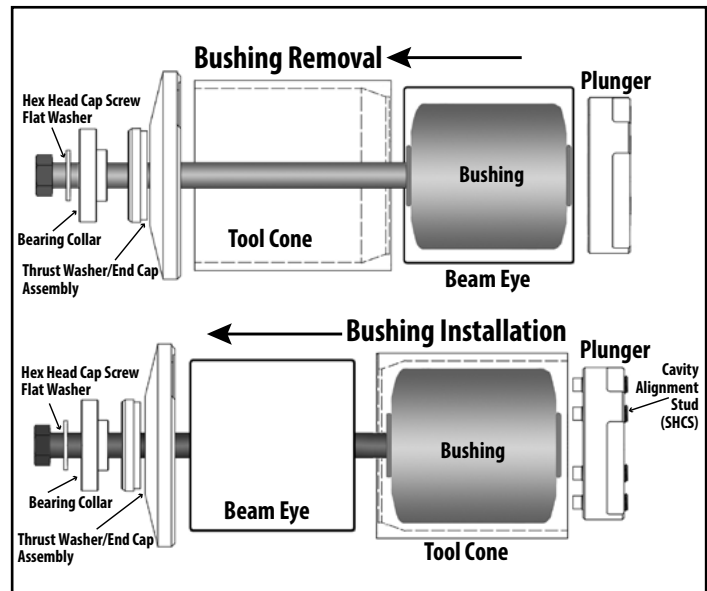

Figure 12. Bushing Tool #6100051. The tapered end of the cone is placed against the beam eye for bushing installation and removal.
4. The bushing tool cone is tapered inside to a smaller opening on one end. Place the larger opening of the cone onto the end cap (Figure 12).
3. Line up the locator mark on plunger with the locator mark on the bushing. Insert the four cavity alignment studs into the bushing cavity holes and press the plunger firmly against the end of the bushing. NOTE: SHCS threads should NOT touch the bushing (Figure 12).